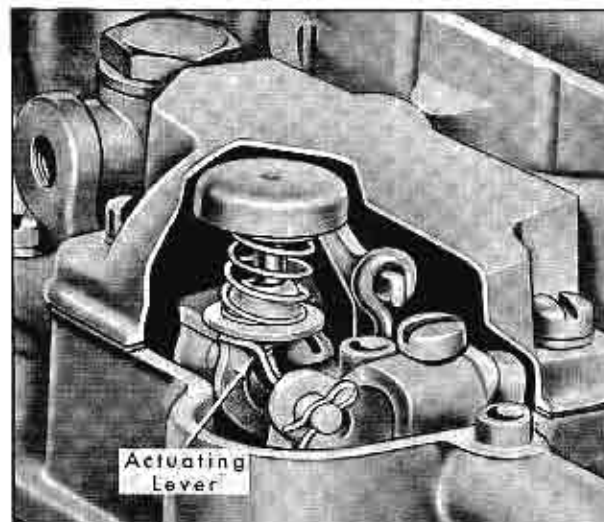

Fig. 12-34 Atmospheric Idle Vent Adjustment
3. If the vent valve opening is less than 1/32 inch, it will be necessary to remove the dust cover with valve and bend the actuating arm, Fig. 12-34, up slightly and repeat above operations after installing dust cover.